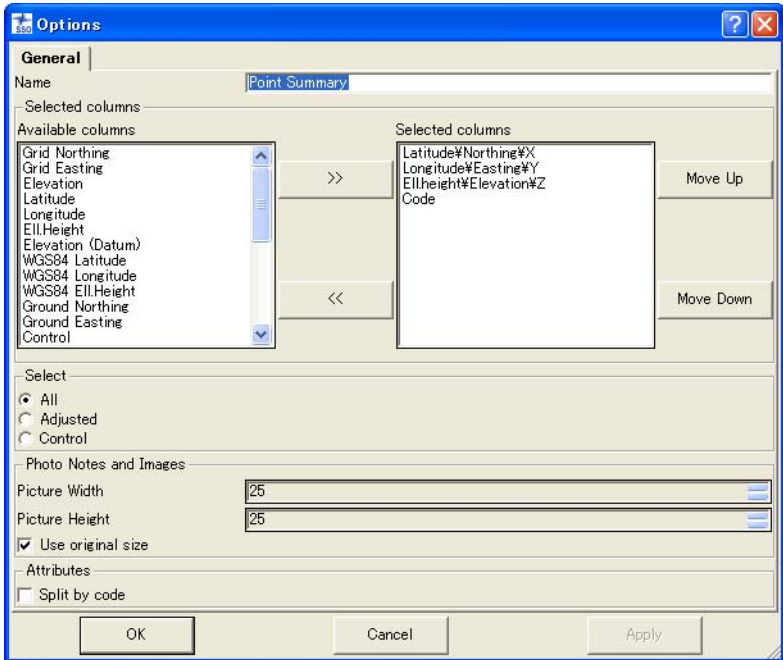

Figure 7-21. Item Options – Point Summary Report
- Point Summary Report – edit the name, select parameters to include or exclude using the move right/move left buttons, order the display of parameters using the Move Up/Move Down buttons, enable the type of points to apply the parameters to, and click **OK** (Figure 7-21).